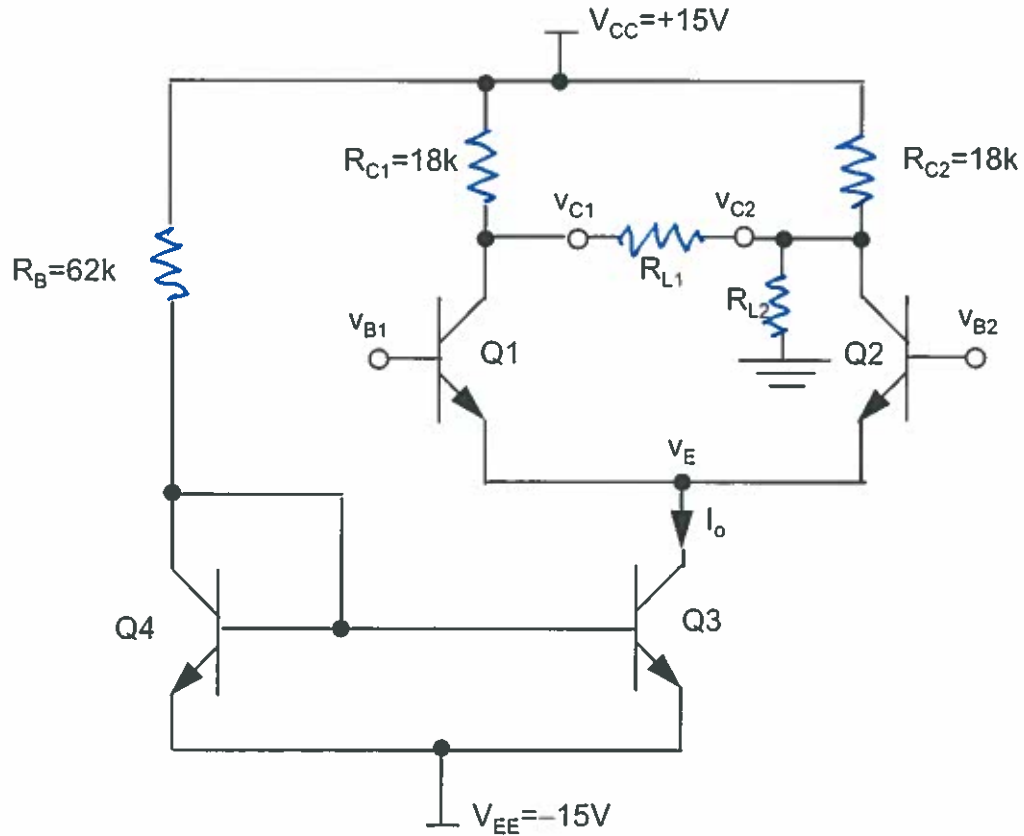

Fig. 1.
For this lab assignment, consider the following BJT Differential Amplifier circuit in Fig 1.
- 2) Using your Lab Kit and components, build the BJT Differential Amplifier circuit in Fig. 1. Use an LM3046 Transistor Array component for the four matched NPN transistors. Match-up LM3046's Q1-Q4 just as they are called out in Fig. 1. (An LM3046 device spec is attached for your reference). **IMPORTANT:** Make sure Pin #13 is connected to $V_{EE}=-15\text{V}$ or else you'll fry the LM3046 chip.